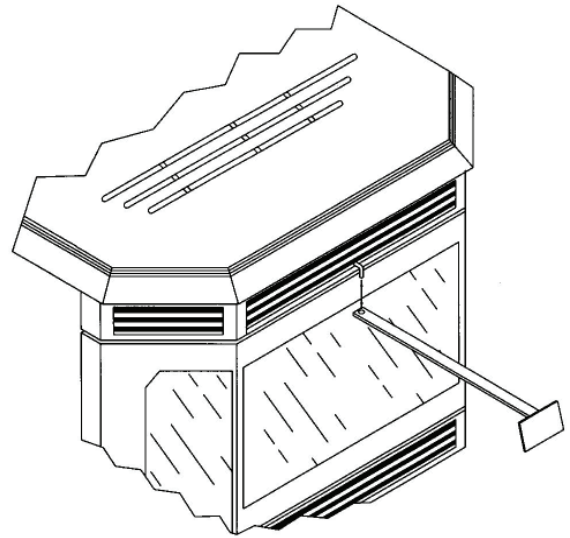

FIGURE 14
- The two thermostat wires connect to the terminal block on the lower left side of the back of the control board. (See figure 14)
- b. Clean heat exchanger tubes (see “CLEANING” and Figure 14).
- a. **Heat Exchange Tubes** – Your Breckwell stove is designed with a built-in heat exchange tube cleaner. This should be used every two or three days to remove accumulated ash on the tubes, which reduces the efficiency of your unit. Insert the handle end (with hole) of the cleaning tool onto the cleaning rod (refer to figure 14). The cleaner rod is located in the grill above the stove door. Move the cleaner rod back and forth several times to clean the heat exchanger tubes. When finished be sure to leave tube cleaner at the rear of the stove.